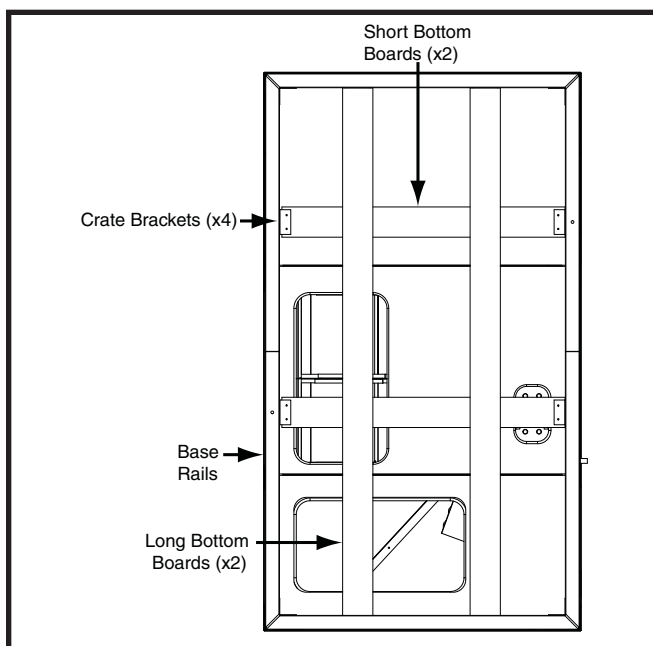

Figure 4. Bottom View
4. Remove crate brackets (Figure 4, page 5) securing long and short bottom boards to underside of unit. **NOTE: Some screws are located in fork slots.**